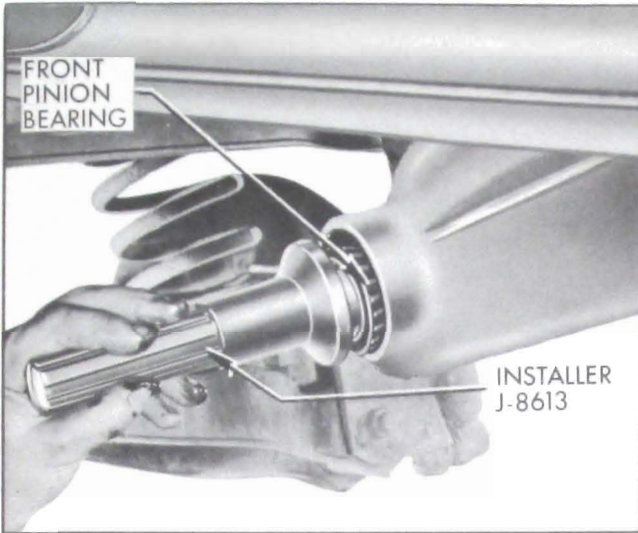

Figure 6-24—Installing Front Pinion Bearing
2. Oil front pinion bearing and place in position on pinion. Hold pinion fully forward and drive front pinion bearing over pinion until seated using Installer J-8613. See Figure 6-24.